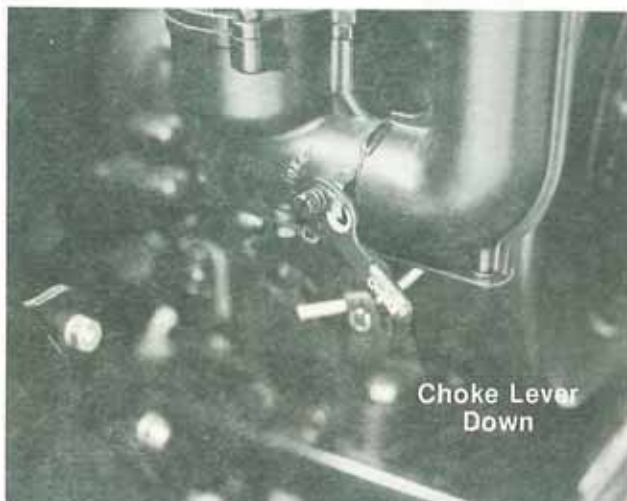

FIGURE 16.
2. Push the "CHOKE" lever down all the way. Set the throttle in the "FAST" position. See figures 16 and 17.